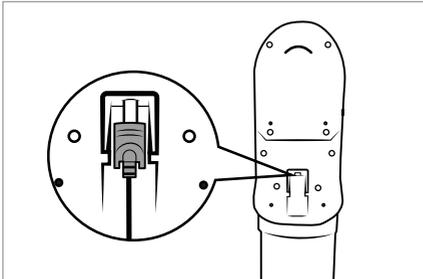

Fig. 8
- ▶ The vacuum cleaner can also be charged directly via the mains adapter **10**. To do this, remove the barrel plug **11** from the wall bracket **18** by turning it slightly and insert it into the charging socket **3** on the appliance (see Fig. 8).